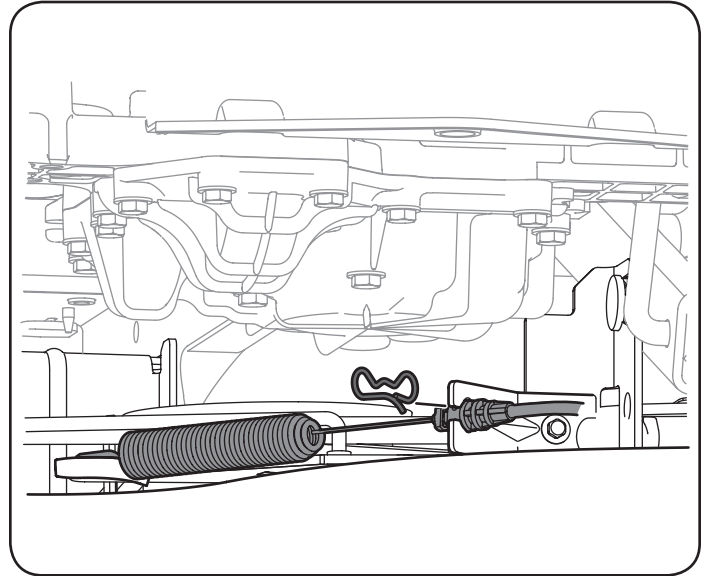

Figure 21
5. Remove the bow-tie pin that secures the PTO cable to the bracket on the deck, pull back on the PTO cable, then slide it out of the bracket and unhook the spring from the idler bracket. See Figure 21.